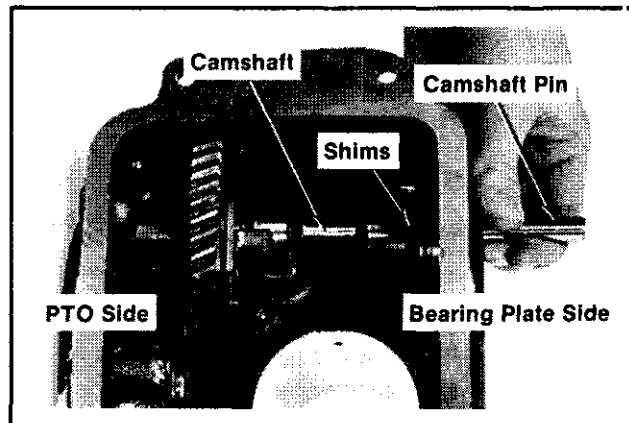

Figure 12A-5. Installing Camshaft.
3. Measure camshaft end play between spacer and crankcase boss using a flat feeler gauge. Refer to Figure 12A-6.